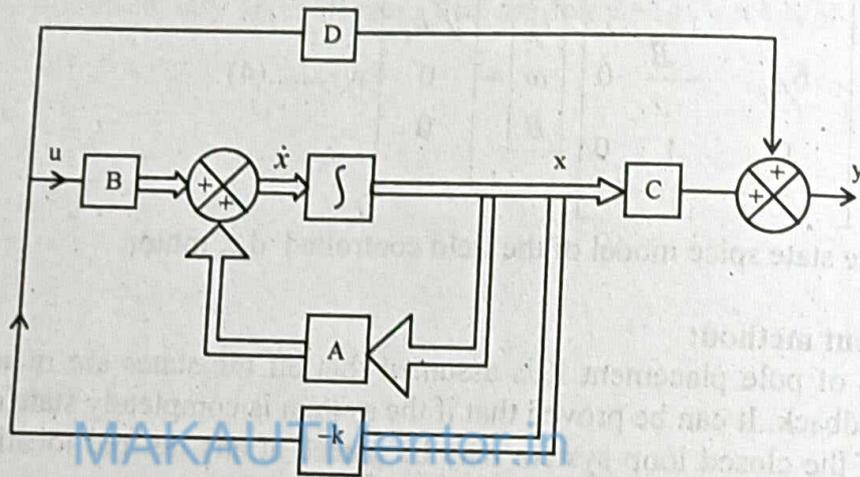

Fig: 1 State feedback system
$x(0)$  being the initial state caused by an external disturbance. The system represented by Eqn. (4) is shown in Fig. 1.